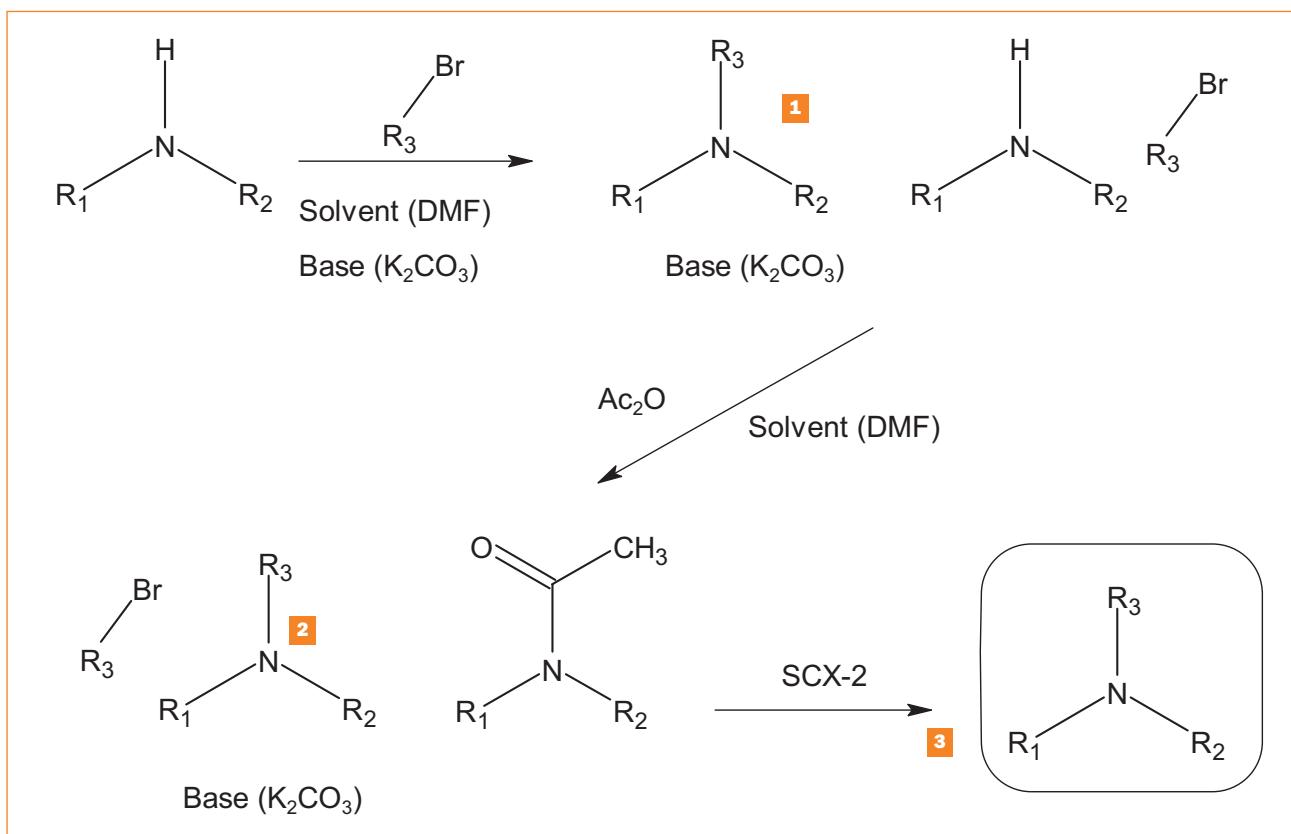

Figure 2. Typical alkylation work-up: acetylation of the secondary amine with acetic anhydride
1. Acetylation of the secondary amine only with excess acetic anhydride (added directly to the crude reaction mixture) (**Figure 2**).